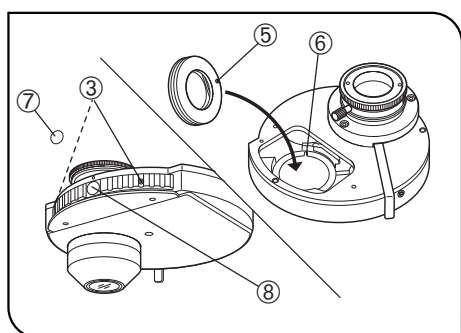
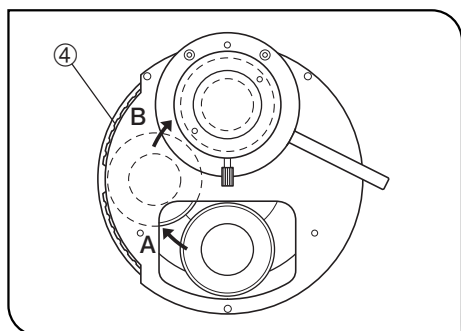

Fig. 33
Fig. 34
2. Remove the condenser cover ① by loosening the retaining screws ② using a coin, etc.
- Using the knob provided with the condenser, loosen the two DIC prism clamping screws ③ until the rotatable limits.
- Rotate the turret by 90° counterclockwise, and drop in the DIC prism by aligning its positioning pin ⑤ with the positioning groove ⑥ in the hole of the turret ④. (Fig. 33)
- A. Rotate the turret ④ by 90° clockwise (Fig. 34) and tighten the two DIC prism clamping screws ③ uniformly using the dedicated knob provided with the condenser. (Figs. 33 & 34)
- B. Rotate the turret ④ by 90° clockwise (Fig. 34), and attach the index sticker ⑦ provided with the DIC prism onto the side ⑧ of the condenser turret ④ so that the index sticker is upside down. (Figs. 33 & 34)